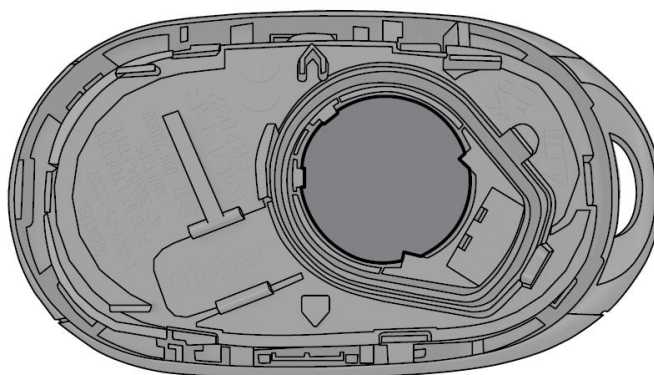

Fig. 4
5. Remove the battery from its slot Fig. 4.